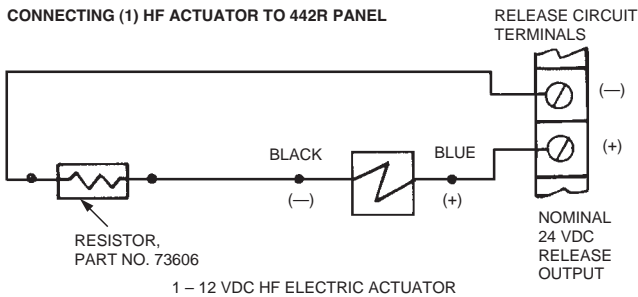

FIGURE 2
1. Figure 2 shows a typical diagram for wiring one HF electric actuator (Part No. 73327) to the release circuit of AUTOPULSE 442R control unit. Polarity must be observed when wiring this circuit. (Always check with the control unit manual for specific details pertaining to release circuit wiring.) When only one actuator is required, an in-line resistor, Part No. 73606, must be installed.